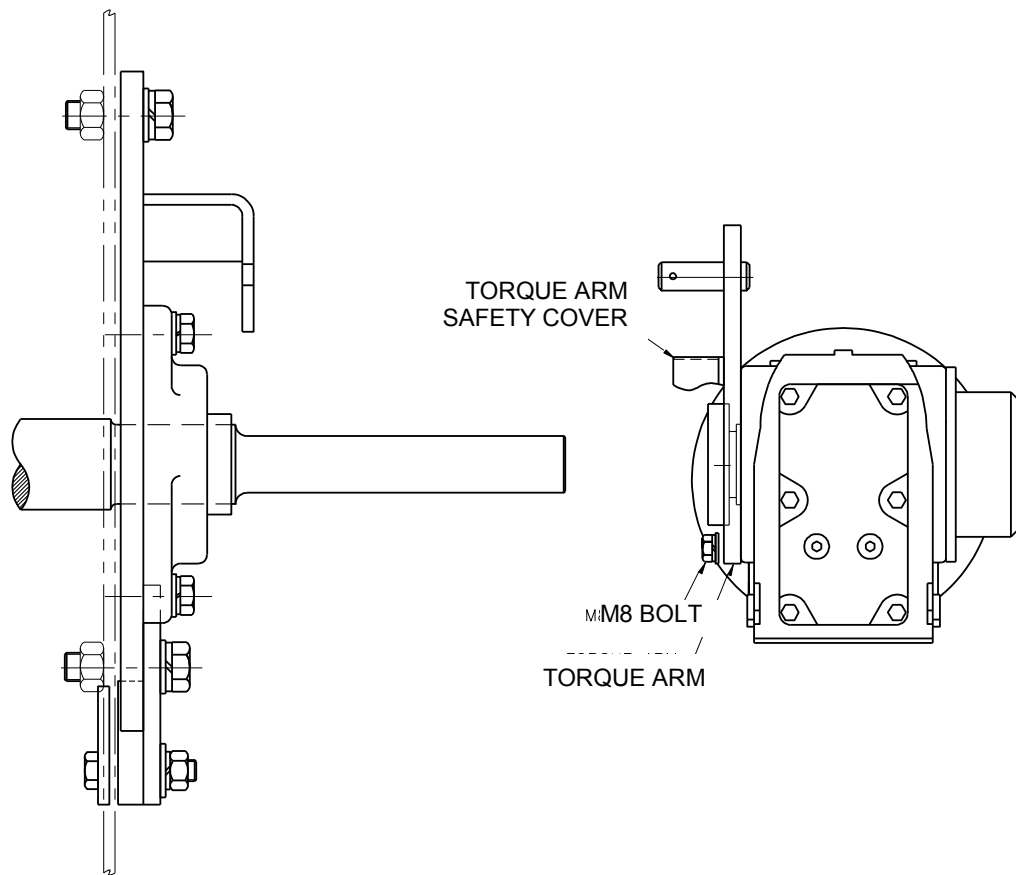

Figure 4-16. Disconnecting the Torque Arm from the Brush Drive
6. Remove the torque arm safety cover and the M8 bolts from the gearbox. See figure 4-16.